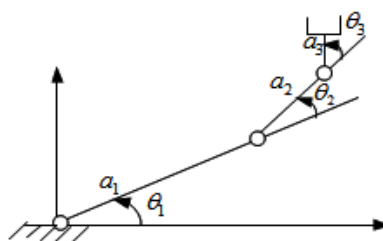

Figure 1
- Find the direct kinematics equations for the two link planar arm shown in Figure. 1. Obtain the solutions for the inverse kinematics.